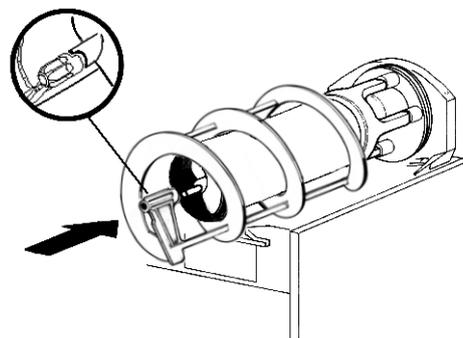

figure 17
- 5 Install the outer spiral. Slide it over the evaporator until its front notch engages with the exposed end of the auger shaft (see figure 17).